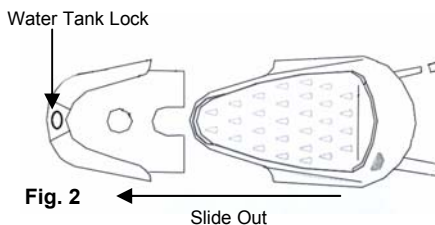

Fig. 2
2. Slide out the water tank from under the iron stand. (Fig. 2)